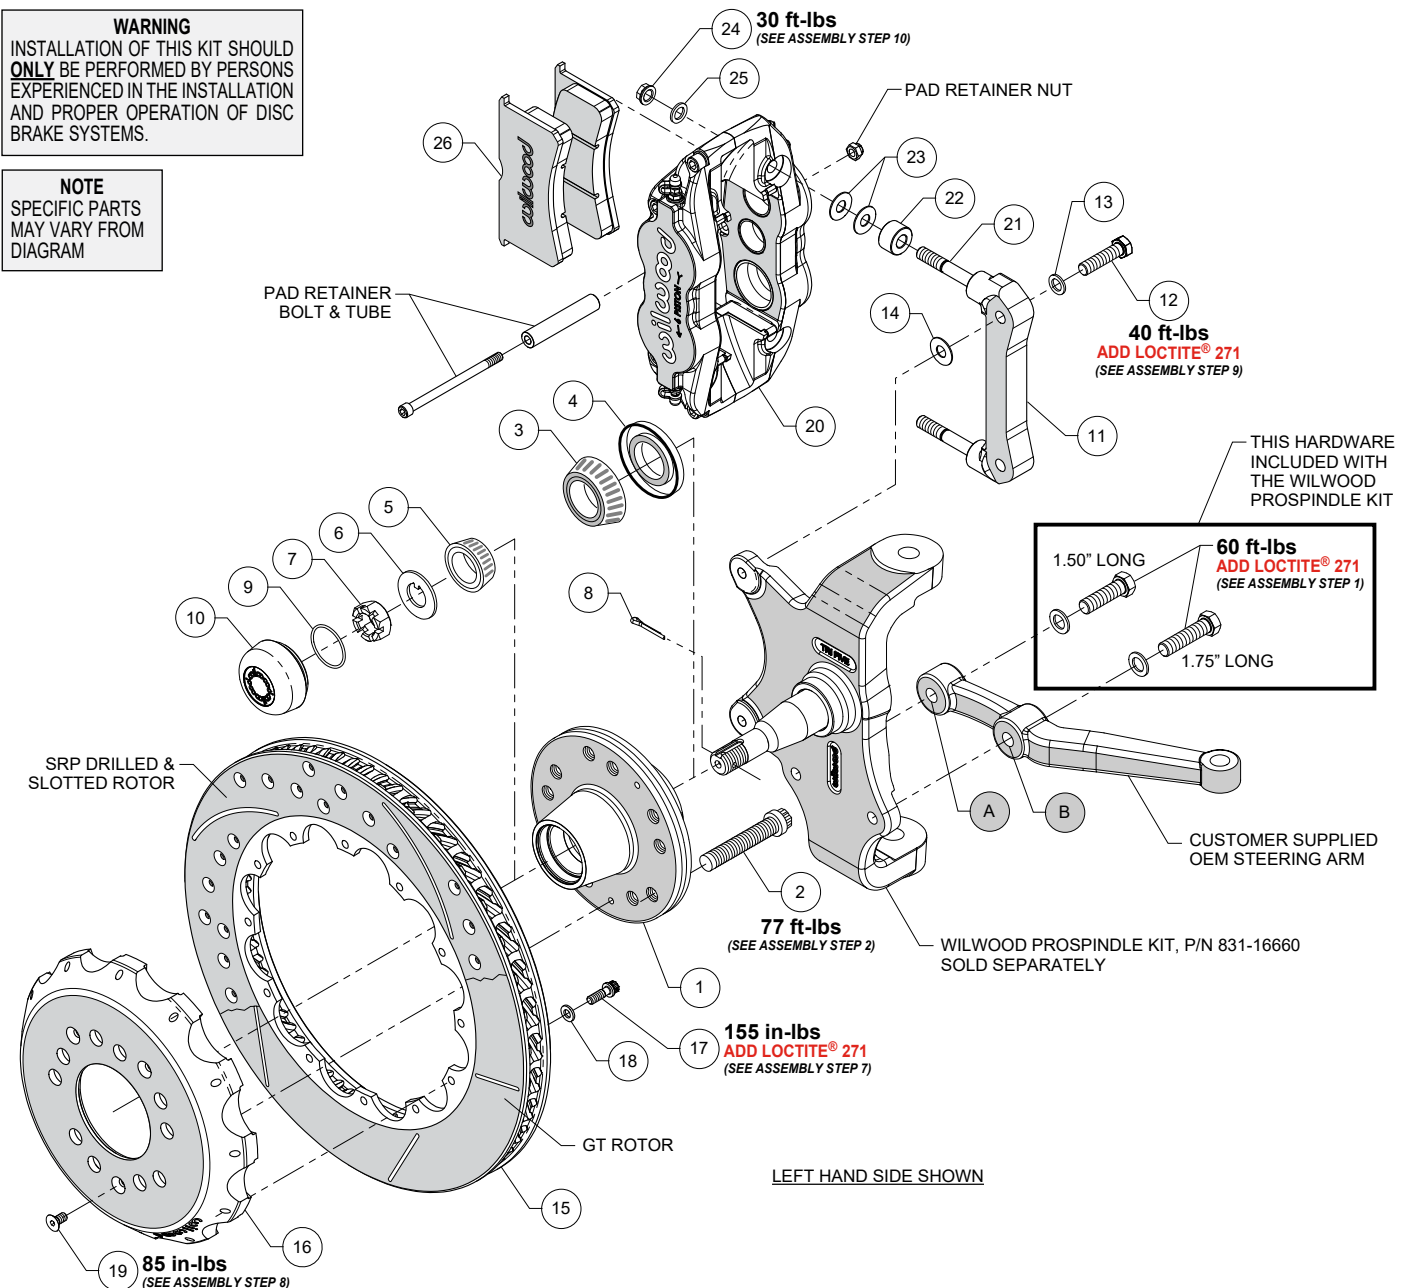
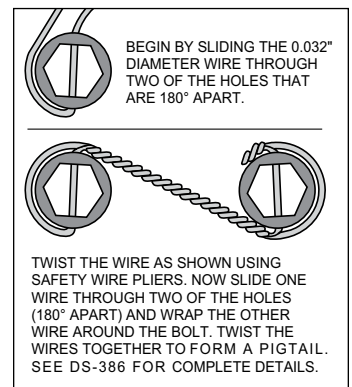

Figure 1. Typical Installation Configuration
Figure 3.
Numbers in parenthesis refer to the parts list and Figure 1 on the preceding pages.
•**NOTE:** Wilwood's ProSpindle kit (p/n 831-16660) includes bolts and washers to mount the steering arm (customer supplied) to the spindle. The various bolts are identified by length in the following instructions and in Figure 1.
**STEP 1** Orient the steering arm, and identify the hole marked "A" as shown in Figure 1. Attach arm to spindle using 1.50" long bolt and washer (from ProSpindle kit), Figure 1. Finish attaching the steering arm through the hole marked "B", using 1.75" long bolt and washer (from ProSpindle kit), Figure 1. Temporarily tighten the mounting bolts. **NOTE:** The steering arm must fit squarely against the mounting points on the spindle. Inspect for interference from casting irregularities, machining ridges, burrs, etc. Remove bolts one at a time, apply red Loctite® 271 to threads, and torque to value shown in Figure 1.
**STEP 2** Install wheel studs (2) from the backside of the hub (1), Photo 1. Torque to value shown in Figure 1. **NOTE:** There are two five lug patterns in the hub (5 x 4.50" and 5 x 4.75"). Ensure the correct hub stud pattern is being used to fit the wheel application.
**STEP 3** Pack the large inner bearing cone (3) with high-temp disc brake bearing grease (available from your local auto parts store) and install into the backside of the hub (1), Figure 1 and Photo 2. Install the grease seal (4) by pressing into the backside of the hub (1), flush with the end of the hub.
**STEP 4** Pack the small outer bearing cone (5) with high temperature disc brake bearing grease and install into the front side of the hub (1). Slide the hub assembly onto the spindle, Photo 3. Secure using spindle washer (6) and spindle nut (7). **Bearing adjustment:** Tighten the nut while turning the hub. When there is a slight bind on the bearings, they are seated correctly. Back the nut off about 1/6 to 1/4 of a turn, or sufficiently to allow .001" to .007" end play. **WARNING:** Failure to back off adjusting nut could cause bearing to run hot and be damaged, which could cause the wheel to lock or come off. Install cotter pin (8), Photo 4.
**STEP 5** Screw dust cap (10) into hub (1), Photo 5. Friction created by the o-ring (9) on the dust cap keeps it from unscrewing. **NOTE:** The O.D. of the existing OEM spindle washer may be larger than the I.D. of the dust cap not allowing it to seat against the hub face. Therefore, use the spindle washer (6) supplied with the kit instead of the OEM washer.
**STEP 6** The caliper mount bracket (11) should initially be installed with clean, dry threads on the mounting bolts. Orient the bracket as shown in Figure 1 and Photo 6, and install using bolts (12) and washers (13). Initially place one .035" thick shim (14) on each bolt between the bracket and spindle, Figure 1. Temporarily tighten the mounting bolts. **NOTE:** The bracket must fit squarely against the mount bosses on the spindle. Inspect for interference from casting irregularities, machining ridges, burrs, etc. Later, after the caliper alignment has been checked, the mount bolts will be secured using red *Loctite*® 271.
**STEP 7** Orient the rotor (15) and the hat (16) as shown in Figure 1 and Photo 7. Attach rotor to hat using bolts (17) and washers (18). Apply red *Loctite*® 271 to the bolt threads and torque to value shown in Figure 1 using a criss-cross pattern. For an added measure of security, the bolts may be safety wired using standard 0.032 inch diameter stainless steel safety wire as shown in Figure 3. Please refer to Wilwood's data sheet DS-386 (available at [www.wilwood.com/Pdf/DataSheets/ds386.pdf](http://www.wilwood.com/Pdf/DataSheets/ds386.pdf)) for complete safety wire installation instructions.
**STEP 8** Slide the hat/rotor assembly (16 and 15) onto the hub assembly. **NOTE:** The hat must fit flush against the hub flange or excessive rotor run out may result. Install set screws (19) to keep the hat/rotor assembly in place while continuing with the installation, Photo 8. Torque to value shown in Figure 1.
**STEP 9 NOTE:** This kit contains distinct right and left hand calipers that must be mounted in a specific direction, as described below. Initially place one spacer (22) and two .035" thick shims (23) on each stud as shown in Figure 1 and Photo 9. Mount the caliper (20) onto the bracket (11) using lock nuts (24) and washers (25), Figure 1. Temporarily tighten the lock nuts. Ensure that the caliper is mounted so the largest pistons are at the rotor exit end of the caliper, in relation to the forward rotation of the rotor. View the rotor through the top opening of the caliper. The rotor should be centered in the caliper, Photo 10. If not, adjust by adding or subtracting shims (14) between the bracket and the spindle. Always use the same amount of shims on each of the two mounting bolts. Once the caliper alignment is correct, remove the bracket mounting bolts (12) one at a time, apply red *Loctite*® 271 to the threads, and torque to value shown in Figure 1.
**STEP 10** Remove the caliper pad retainer bolt, tube, and nut from the caliper. Insert the brake pads (26) into the caliper, with the friction material facing the rotor, as shown in Photo 11. Check that the top of the brake pad is flush with the outside diameter of the rotor. If not, adjust by adding or subtracting shims (23) between the caliper and the bracket. After the caliper pad height is set, reinstall the pad retainer bolt, tube and nut, Photo 12. The bolt should be snug without play in the tube. Be cautious not to over tighten. Torque the caliper lock nuts (24) to value shown in Figure 1.